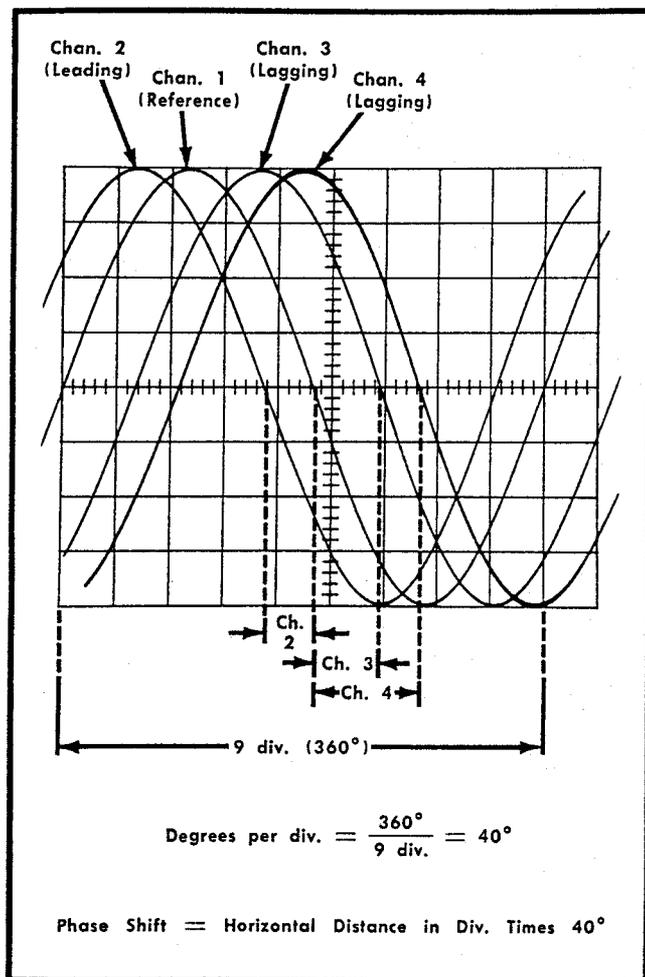

Fig.3-3. Measuring the phase shift between electrical waveforms.
8. Rotate the Variable Time/Div. control of the time base counterclockwise until one cycle of the reference signal occupies exactly 9 divisions horizontally. Use the Slope switches and the Triggering Level control of the time base to trigger on the reference waveform at any point you desire. Each division on the screen now represents 40° of one cycle at this time-base setting (see Fig. 3-3).